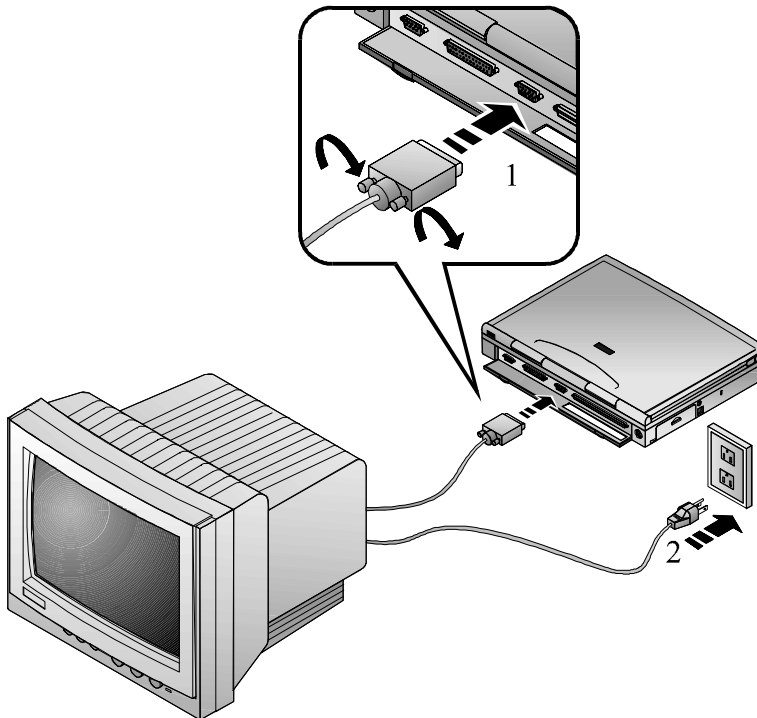

Figure 4-1: Connecting an External Monitor
1. Connect the monitor signal cable to the notebook's VGA port located on the rear of the notebook. Tighten the thumb screws (Figure 4-1, step 1).
2. After ensuring the monitor is turned off, connect its power cord to a wall outlet (Figure 4-1, step 2).